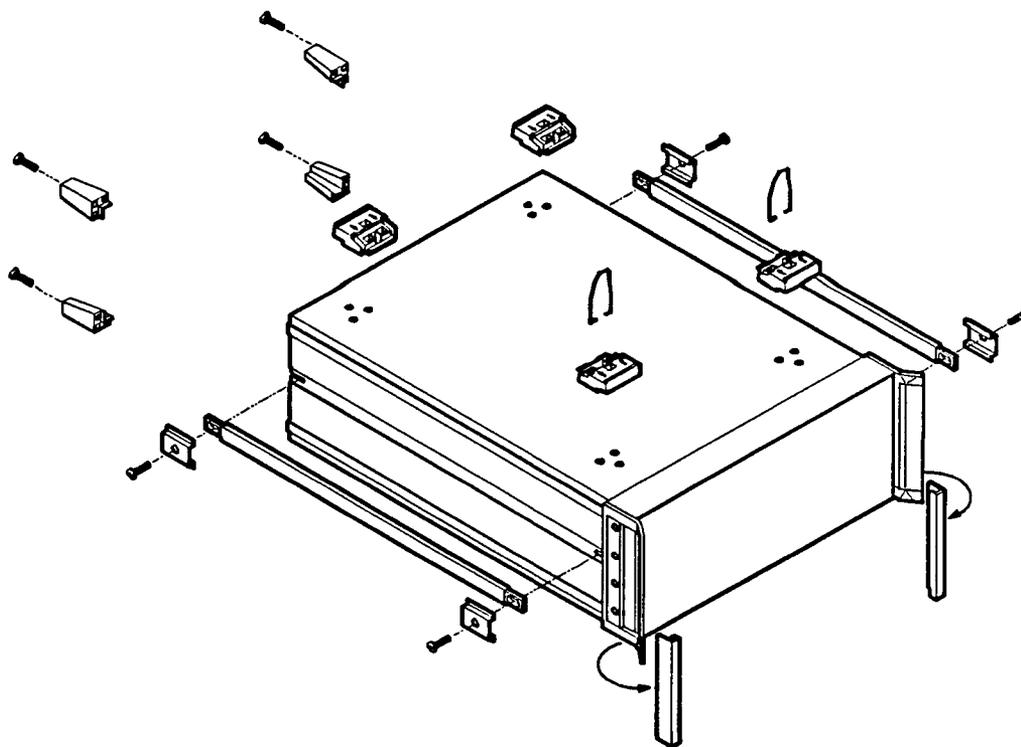

Figure 12-5. Removing the Side Straps and Feet
1. Refer to Figure 12-5. Remove the handle trim strips.